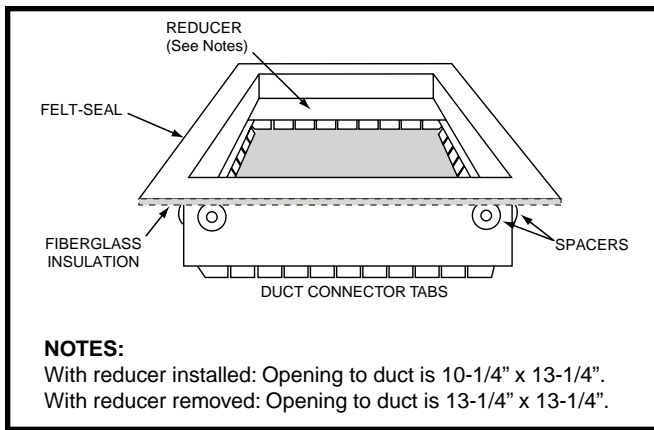

Figure 12. Duct Connector
- NOTE:** The furnace may be installed on combustible flooring when installed on a Nordyne duct connector. See Figure 12 \(page 16\). This factory supplied accessory must be installed in the floor cavity and attached to the supply air duct before the downflow furnace is installed.
The *RL series gas furnace is certified for use on wood flooring or supports, but must be installed on a special duct connector (Figure 12). This factory supplied accessory must be installed in the floor cavity and attached to the supply air duct before the downflow furnace is installed.